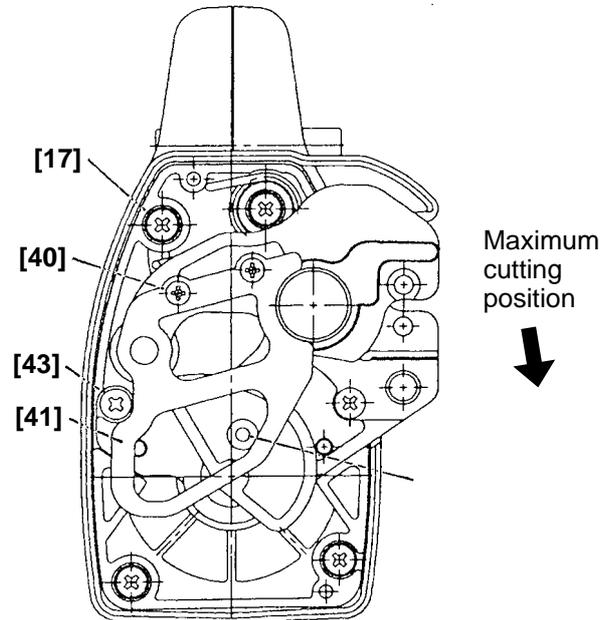

Fig. 41
(iii) Mount the Gear Cover [19] to the housing keeping Bracket (A) [42] at the maximum cutting position in the same manner as the removal procedure (be careful of the spring force) (Fig. 41).
(iv) Tighten the four Tapping Screws (W/Flange) D5 x 25 (Black) [17] and the two Tapping Screws D5 x 35 [43] (Fig. 41).
Align the Return Plate [41] with the Roller Pin [54] and Bolt (A) [39]. Insert the pin of the Cam Shaft [55] in the hole of the Return Plate [41] and secure them with the two Seal Lock Screws (W/SP. Washer) M4 x 12 [40] (Fig. 41).